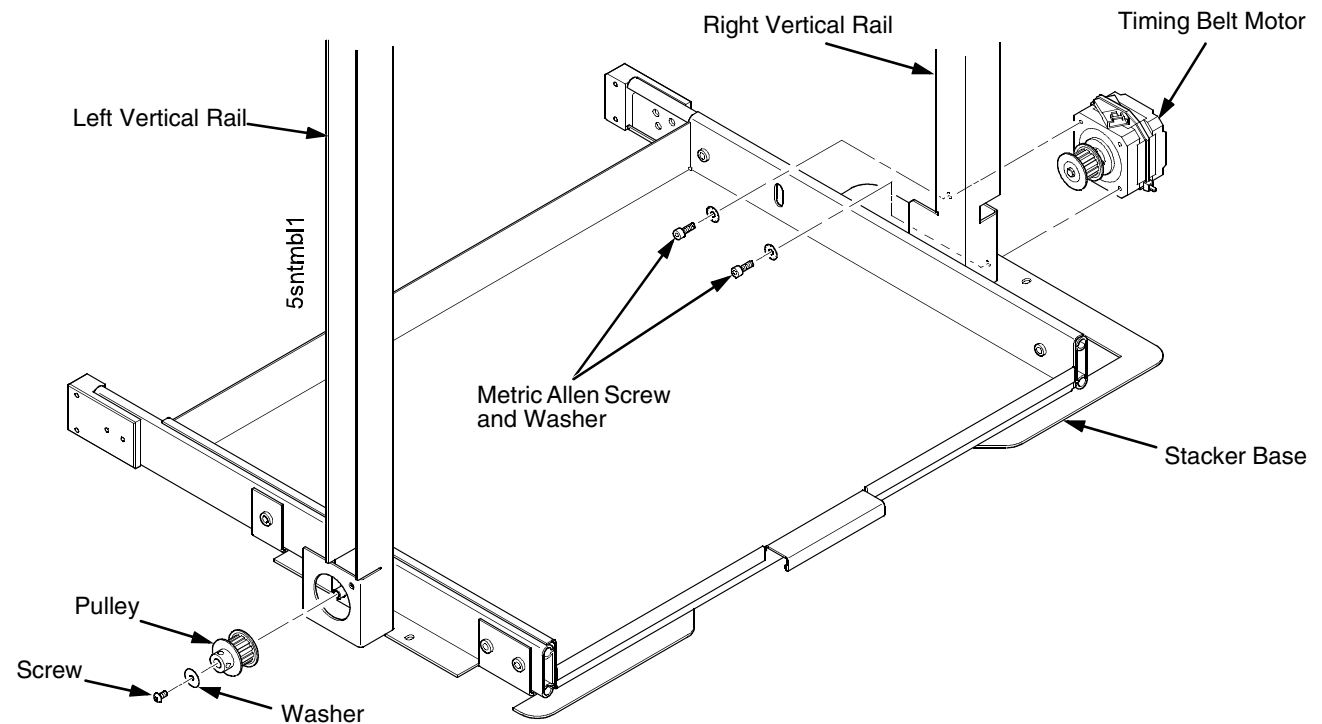

Figure 84. This figure shows how to remove the timing belt pulley and timing belt motor.
3. If you are removing the left timing belt, remove the screw and washer from the pulley at the bottom of the left vertical rail, and remove the pulley. (Figure 84.) Go to step 6.
4. If you are removing the right timing belt, remove the two metric Allen screws that secure the timing belt motor to the right vertical rail. (Figure 84.) Go to step 5.